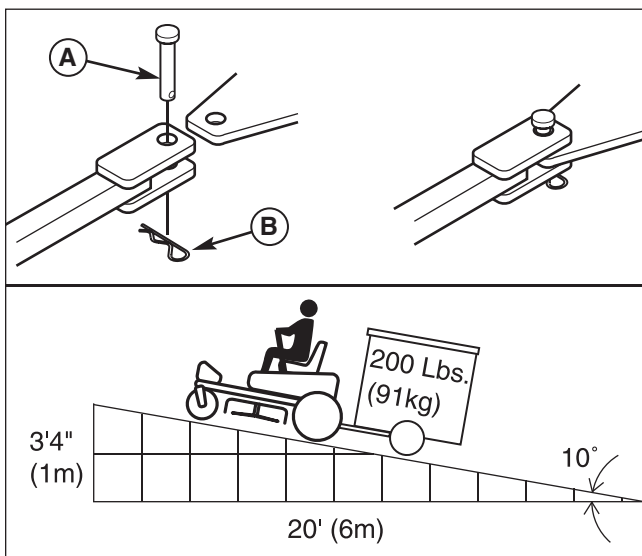

Figure 15. Trailer Weight Recommendations
The maximum weight of a towed trailer should be less than 200 lbs (91kg). Secure the trailer with an appropriately sized clevis pin (A, Figure 15) and clip (B).